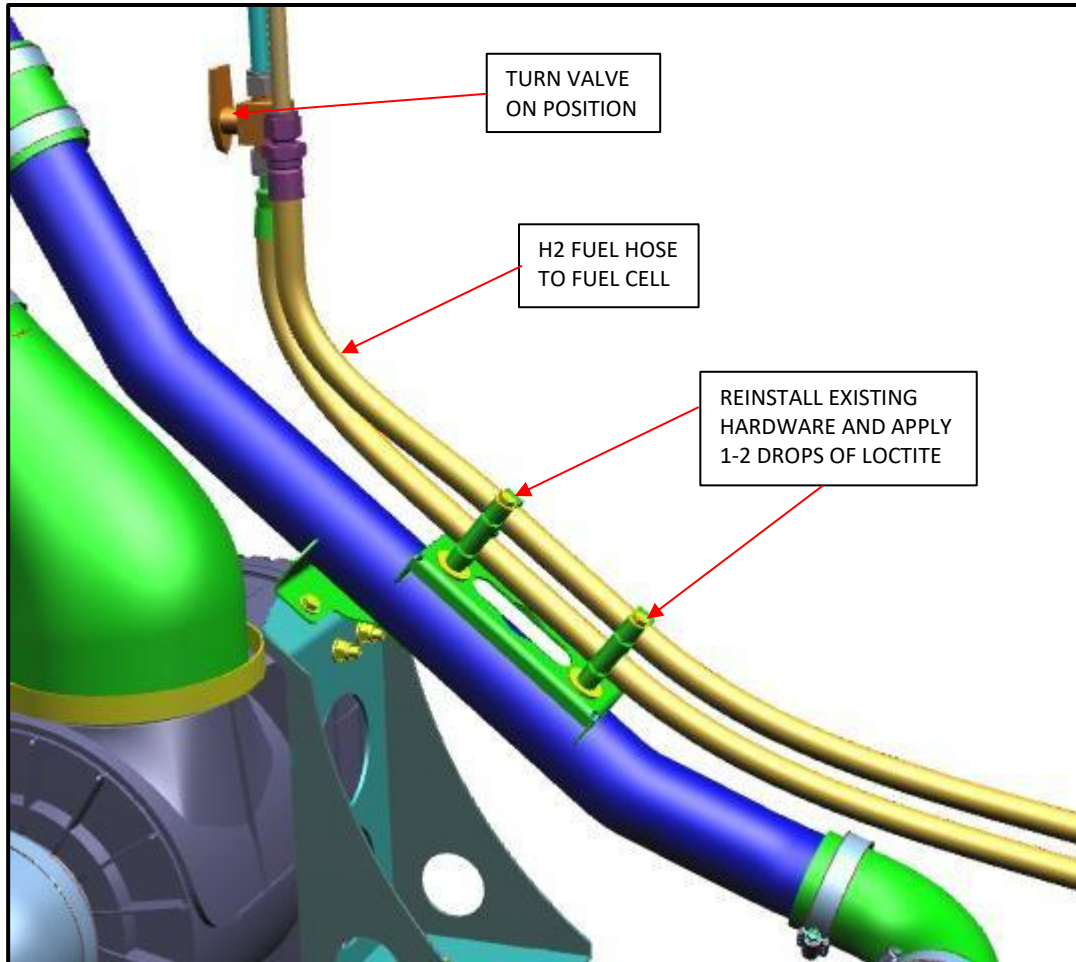

Figure 11: H2 fuel hose location reference
22. Reinstall H2 fuel hose on vent tube bracket using existing hardware and apply 1-2 drops of Loctite-243 PN 081034 to the threads. Turn valve to ON position. See figure 11.